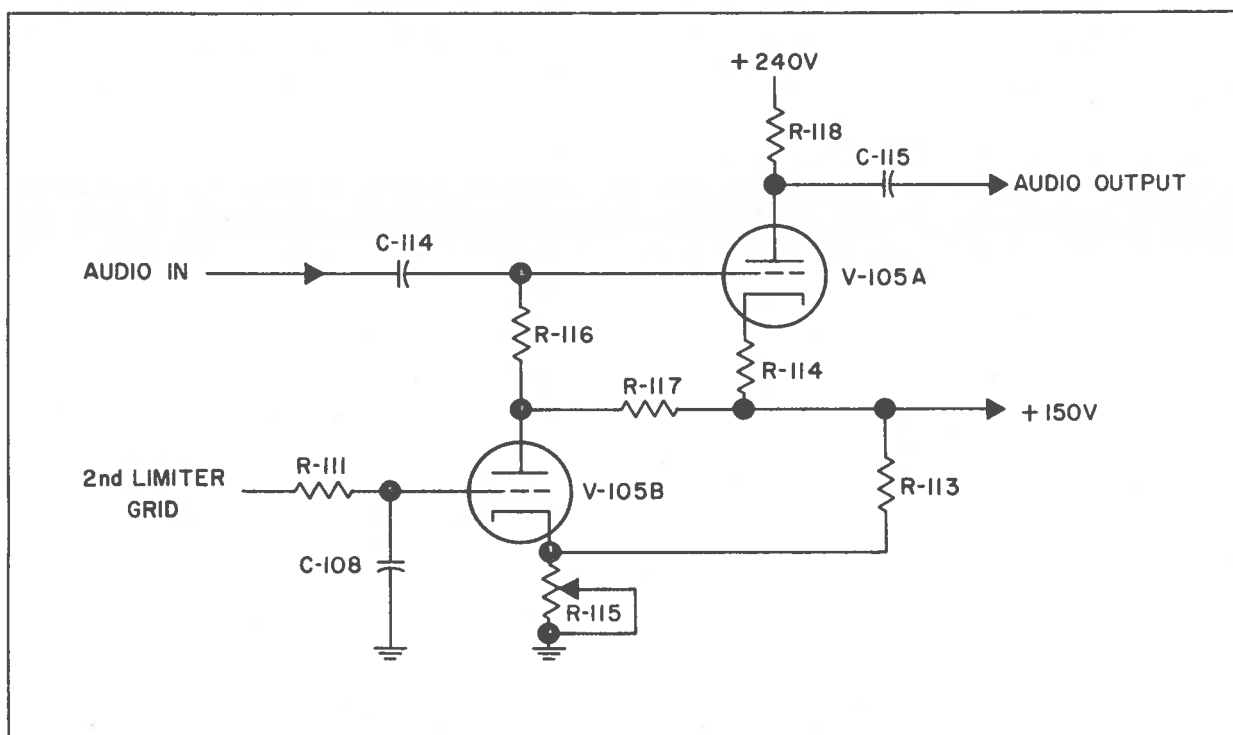

Fig. 2-2. Model 1301-A - 1302-A Receiver Squelch Circuit, Simplified Schematic.
f. THE SQUELCH CIRCUIT.— The squelch circuit is best described with the aid of the simplified schematic of Fig. 2-2. V-105A acts as a gated audio amplifier stage, while V-105B serves as a d-c amplifier and gate generator. The circuit is connected in such a manner that V-105B has zero grid voltage when no signal is being received and has a negative signal applied when a carrier is being received. The audio amplifier stage, V-105A, will pass an audio signal when the d-c amplifier, V-105B, is nonconducting, and will not pass an audio signal when V-105B, is in a conducting condition. In this manner the audio circuit is disabled when no carrier is being received. The carrier strength necessary to make the audio section operative is adjusted by the threshold (squelch) control R-115. The operation of this circuit is detailed in the following paragraph.